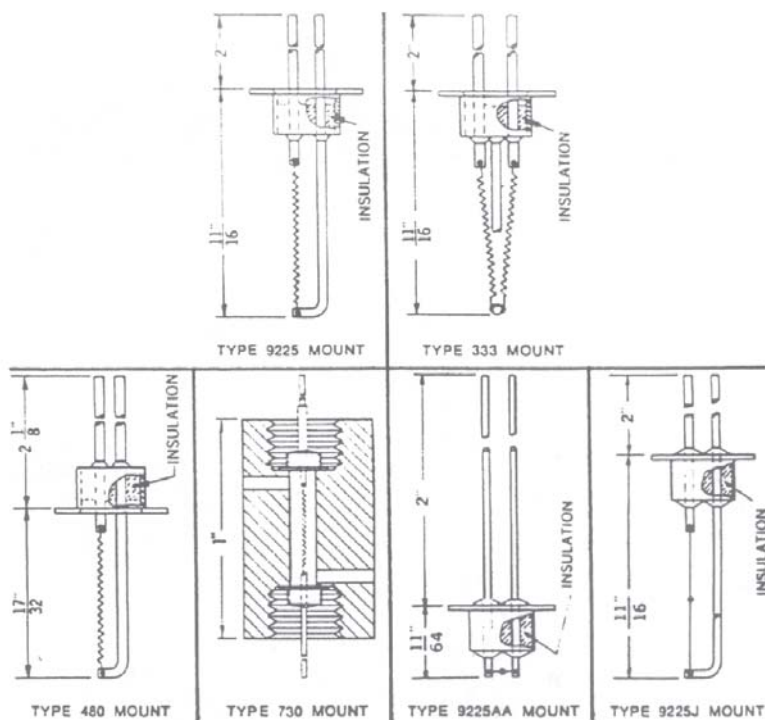

Figure 2
GOW-MAC filaments are mounted on either two or three pin glass to metal seals. The 9225 and 333 mounts are gold plated Kovar with glass insulation. GOW-MAC also offers (a) a hermetic seal type, and (b) a concentric filament type (730 mount) as used in Model 10-952 Cell. (Fig. 2) Hermetic seal and concentric filament type cells must be returned to GOW-MAC for filament replacement. However, filaments can be replaced in the field in cells having mechanical seals by following the instructions in the bulletin.
2. Note position of support assemblies. 333 W2 long support wire faces inlet. (Fig. 2). 9225-A and AA (thermistor) is at right angles to axis of inlet. (Fig. 2)